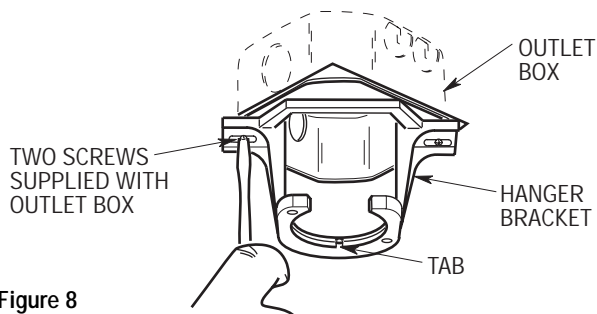
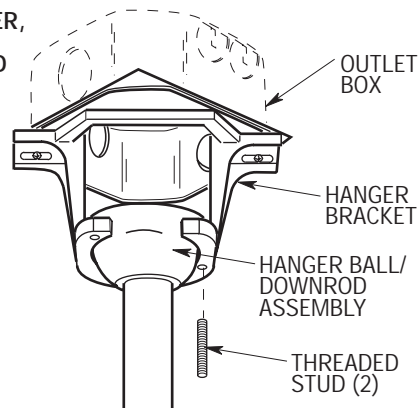

Figure 8
Figure 9
- 1. Securely attach the hanger bracket to the outlet box using the two screws supplied with the outlet box. (Figure 8.)
- 2. Carefully lift the fan and seat the hanger ball/downrod assembly on the hanger bracket that was just attached to the outlet box (Figure 9). Be sure the groove in the ball is lined up with the tab on the hanger bracket (Figure 8).
- 4. Screw the two 1-1/4" threaded studs (supplied) into the tapped holes in the hanger bracket (Figure 9).